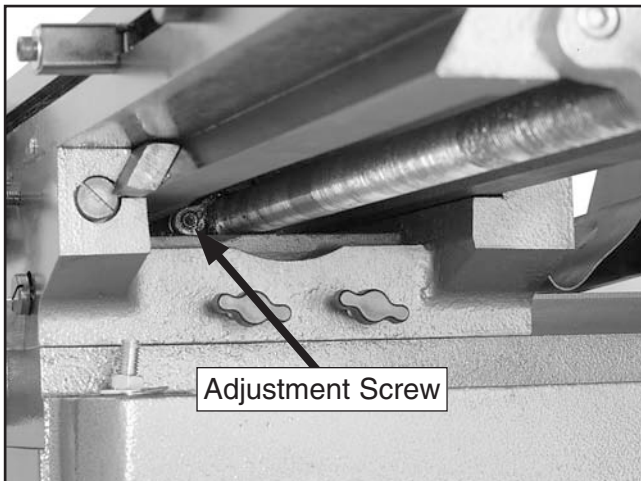

Figure 75. X-axis leadscrew adjuster.
1. Locate the X-axis leadscrew nut under the middle of the table. The head on the adjustment screw faces to the right (**Figure 75**).